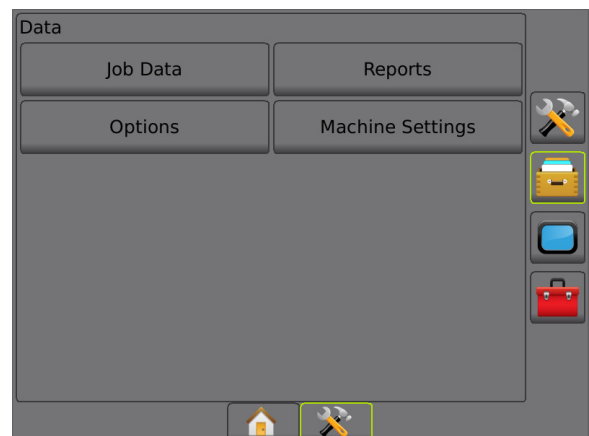

Figure 3 - Data screen
2. Press the  button to show the Data screen, Figure 3.